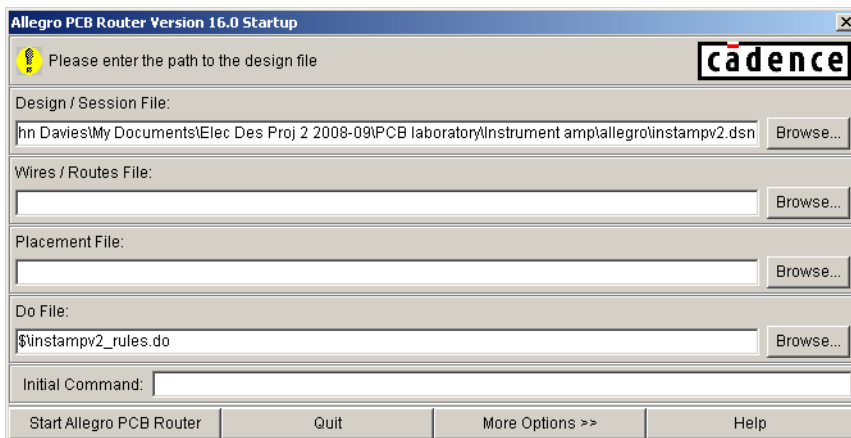

Figure 17. Startup dialogue box for importing a design into PCB Router.
2. Start OrCAD PCB Router from the Windows Start menu. You are presented with the fairly complicated dialogue box shown in figure 17 on the following page. Use the Browse... buttons to open the following two files.